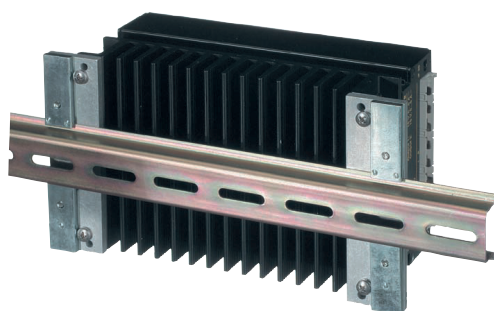

Fig. 37
- DIN-rail mounting assembly HZZ0615-G (DMB-K/S); see fig. 37